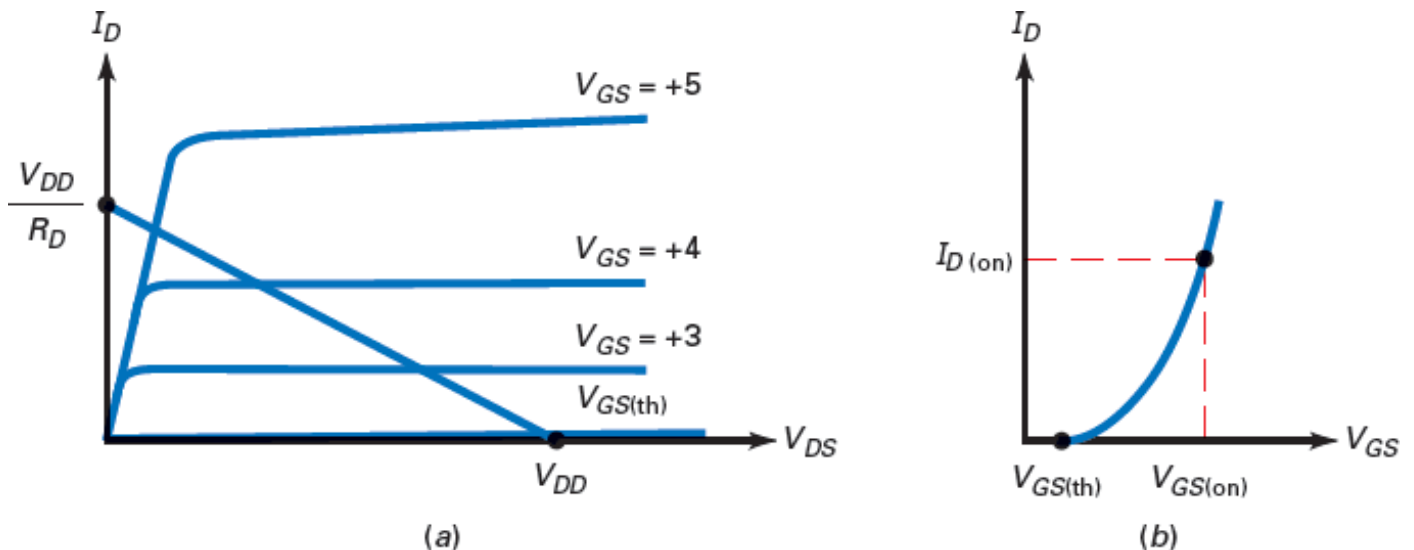

Figure-33 An n-channel E-MOSFET: (a) Drain curves; (b) transconductance curve
- Figure-33 shows the drain curves and the transconductance curve for an n-channel E-MOSFET. The parabolic transfer curve is similar to that of D-MOSFET with some important differences.